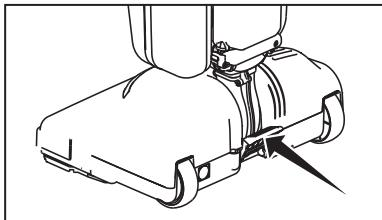

Fig. 2
- Press the Handle Release Pedal once for routine vacuuming (Fig. 2).